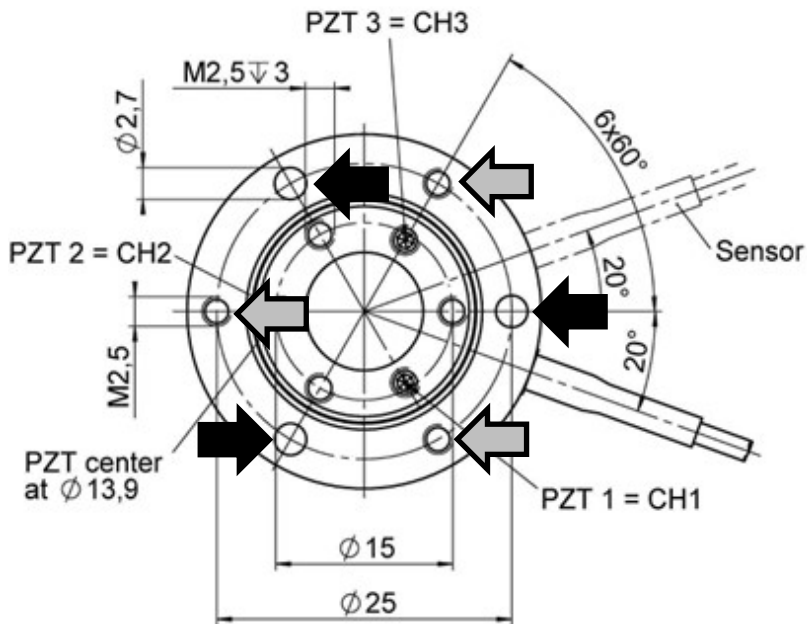

Figure 10: Arrows indicate where to mount the S-316
- Mount the S-316 using the mounting holes labeled by arrows, see Figure 10.